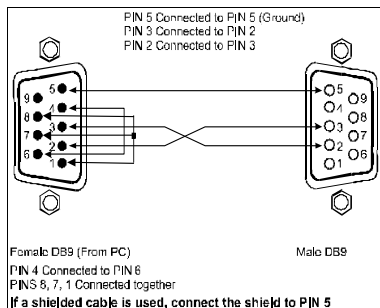

Figure 4: Connecting a PC without using a Null-modem Adapter
- Connect the RS-232 9-pin D-sub port on your PC to the RS-232 9-pin D-sub rear panel port on the **VS-88HD** unit, as Figure 4 illustrates